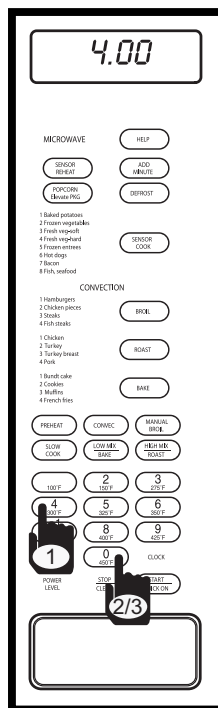

Figure 3-36.
1. Enter desired defrost time duration. For example: 4 minutes; press the number 4 key, and number 0 key twice (See Figure 3-36), the display will flash “4.00 - PRESS - START - OR - PRESS - POWER - LEVEL ”.